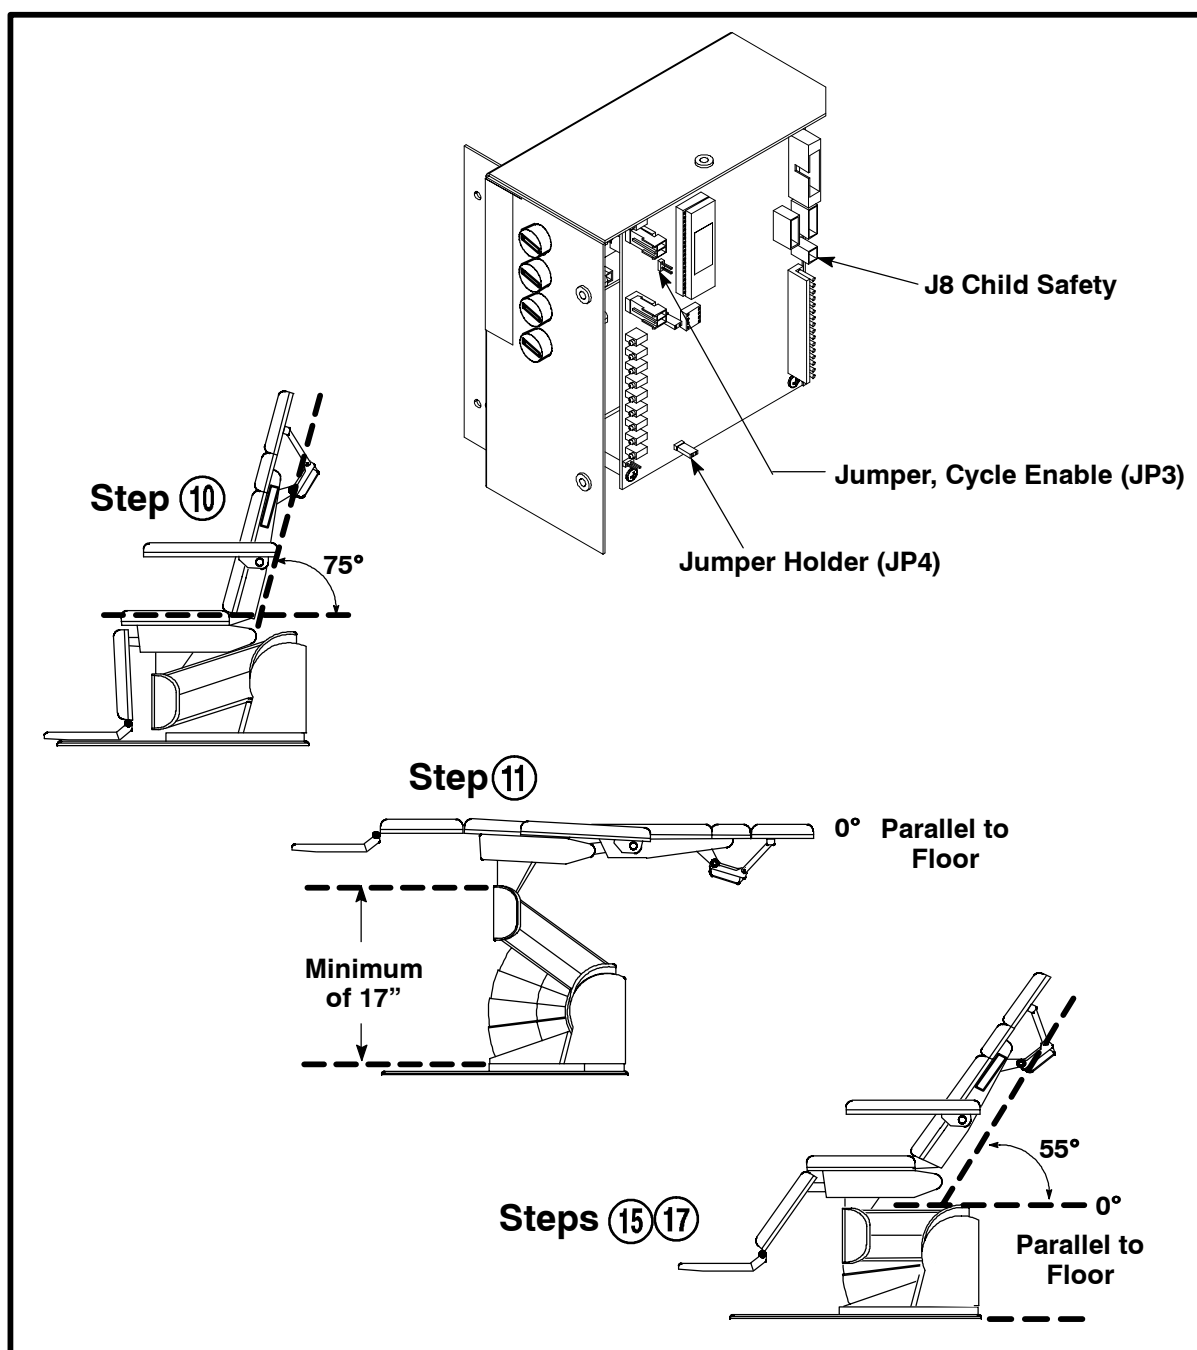

Figure 3-6. MaxiSelect Controller Set-up
4. Move jumper from **Jumper Holder (JP4)** to **Jumper, Cycle Enable (JP3)**. See Figure 3-6.
10. Press **Seat Back** to 75° degrees. Reference 0° degrees from base. See Figure 3-6.
12. Press **Seat Up** until housing is 17" or more from the base and then press **Seat Back** to set back to 0° degrees (parallel to floor). See Figure 3-6.